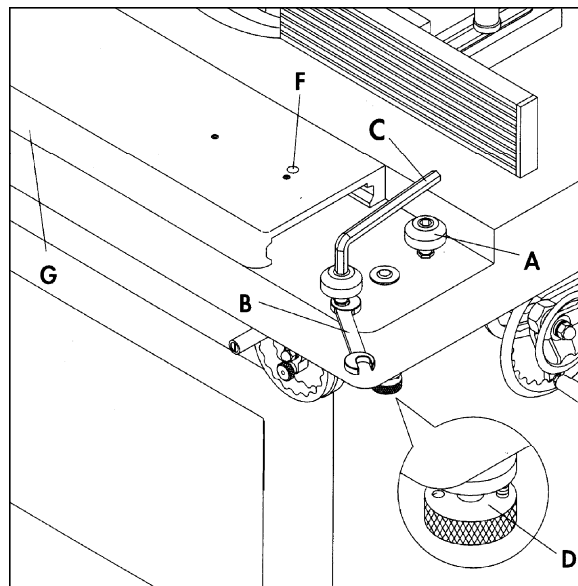

Figure 24
There are six adjustable eccentric rollers (A, Figure 24) on the sliding table. Whenever the sliding table is unstable or not traveling in line, adjust the sliding table as follows:
1. Loosen the roller (A, Figure 24) with a hex wrench (C, Figure 24).
2. Use open end wrench (B, Figure 24) to rotate the rollers as needed.
3. Lock the setting of the roller by using the hex wrench (C, Figure 24).
To operate the sliding table (F, Figure 24) pull down on the knurled knob (D, Figure 24) and rotate it 180 degrees until the opposite hole engages the pin. The sliding table can then be moved back and forth.
To lock the sliding table in centered position, move the sliding table flush with the main table. Pull down on the knurled knob (D, Figure 24) and rotate it 180 degrees until it engages the pin.